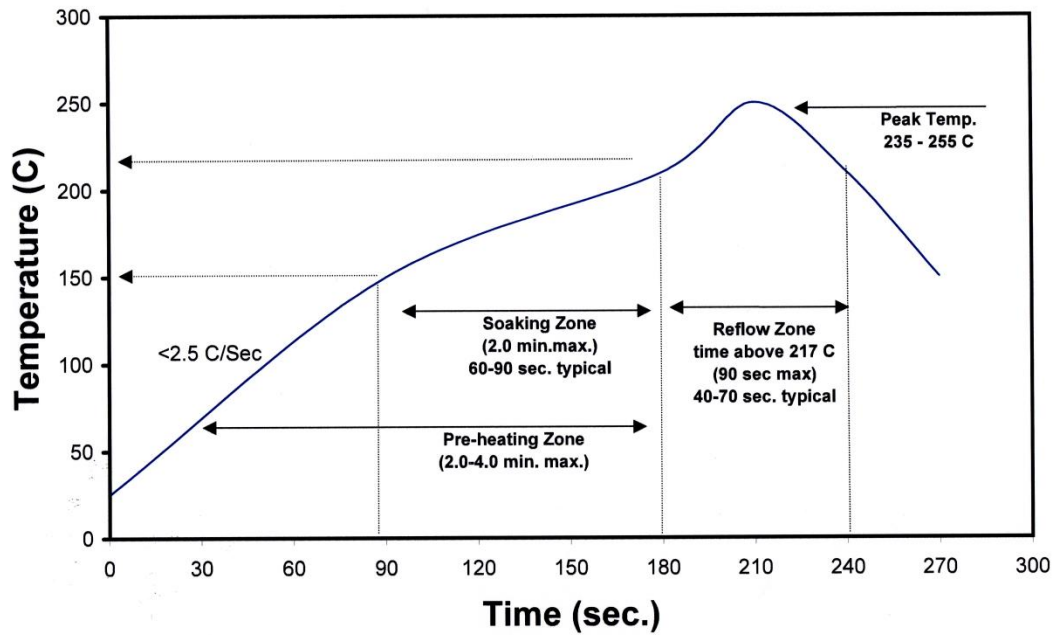

Figure 3: Reflow soldering profile for lead free soldering.
- Solder conditions per JEDEC 020D. See Reflow Soldering Profile Figure 3.